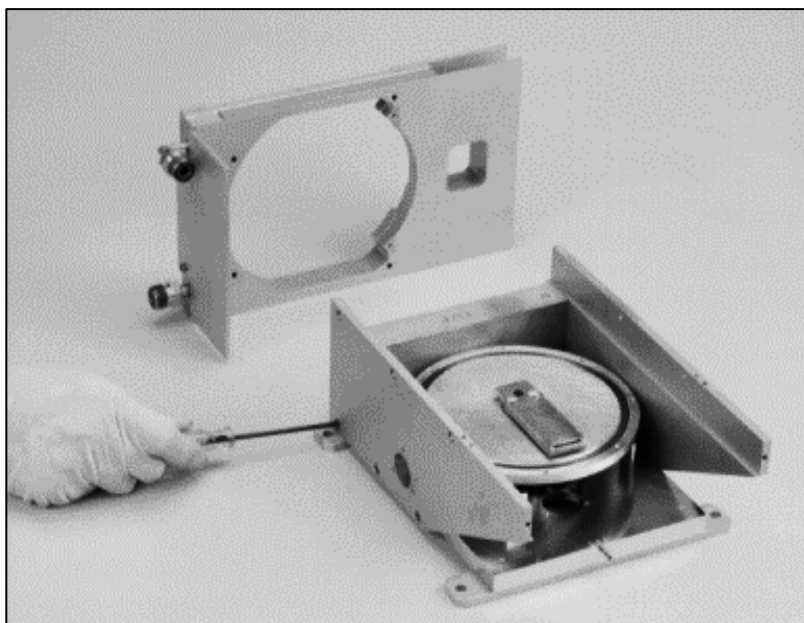

Figure 5-10. Removing Screws that Secure the LH Pole Piece to the Base Plate
Step 14: Remove the screws that secure the pole pieces to the base plate (see Figure 5-10).